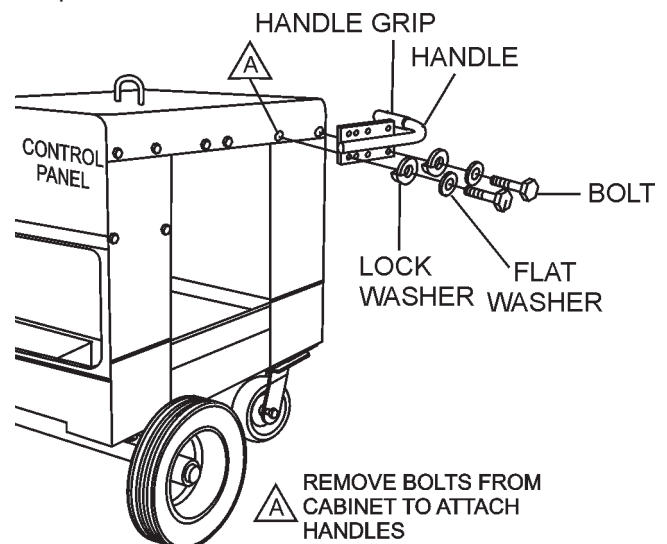

Figure 14. Attaching Handles to Cabinet
- Near the top of the cabinet on the rear (control panel side) of the machine, remove the two bolts from the cabinet wall. Attach the handle to the cabinet wall by inserting a bolt, lock washer, and flat washer through the bottom two bolt holes on the handle into the cabinet (Figure 14). Repeat on the other side of the cabinet.